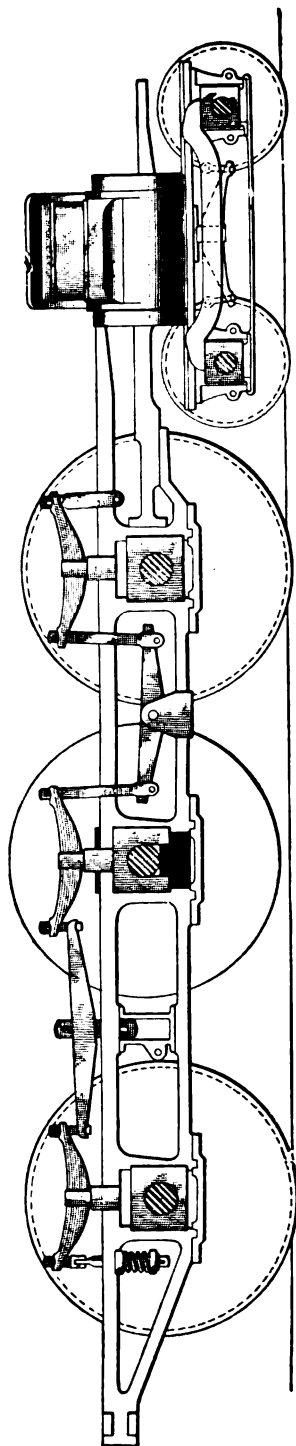

FIG. 48.
**106.** Should the main tire break and no further damage be done, run that wheel up on a wedge to about the height of the tire; then block below the bottom of the box and pedestal brace, and in place of the oil cellar, as shown in Fig. 48. Also, block between the top of the frame and the spring saddle to relieve the box of its weight; then cut out the driver brake and proceed.